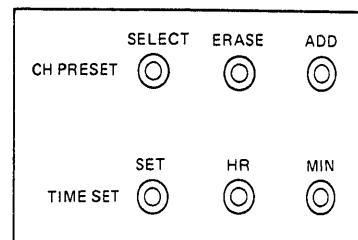
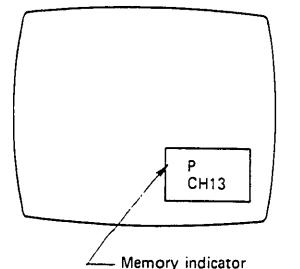

Fig. 3
Fig. 4
- (1) Press the CHANNEL BUTTON (\blacktriangle : UP or \blacktriangledown : DOWN) to select the unwanted channel.
- (2) Press the ERASE BUTTON while pressing the SELECT BUTTON in the door, and the channel is erased from the memory. When you press the SELECT BUTTON at this time, the time indication at the lower right side on the screen changes to "P" and "P" disappears by pressing the ERASE BUTTON. This means that the memory storage mode (indicated by "P") has changed to the memory erase mode ("P" disappears). (See Fig. 3 and Fig. 4)
- (3) Repeat item 1 and 2 to erase the memory of other unwanted channels.
- (1) Press the CHANNEL BUTTON (\blacktriangle : UP or \blacktriangledown : DOWN) to tune to the desired channel. When you tune the channel using CHANNEL BUTTON, press the CHANNEL BUTTON while pressing the SELECT BUTTON. At this time, the time indication disappears and "P" is not also displayed.
- (2) Press the ADD BUTTON while pressing the SELECT BUTTON, and the channel is stored in memory. "P" is indicated at this time. (See Fig. 3 and Fig. 4)
- (3) Repeat item 1 and 2 to store other channels in memory.